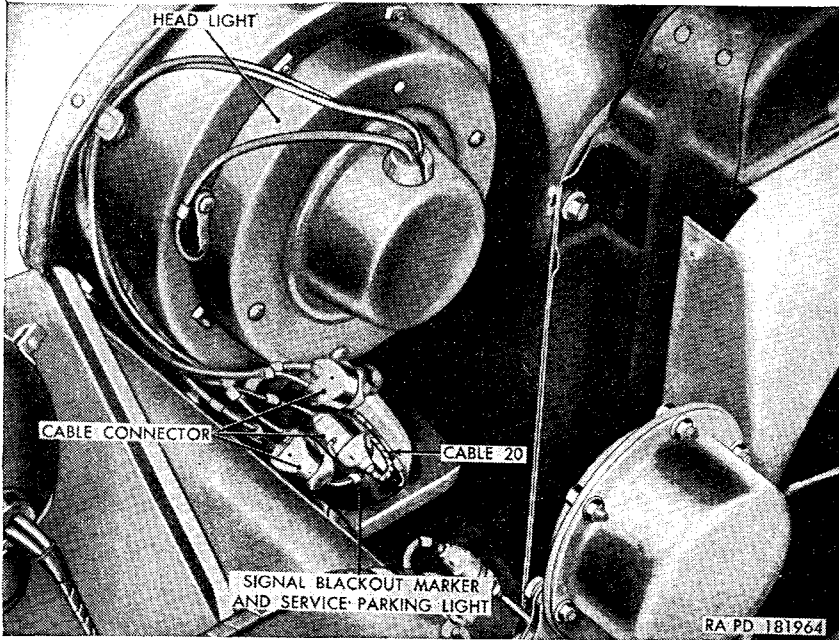

Figure 182. Electrical cables leading to left headlight assembly.
- (1) Raise hood and lock in raised position (par. 255*a*).
- (2) Working on the inside of the left front fender, disconnect the electrical cables (fig. 182) leading to the headlights and the signal blackout marker and service parking light assemblies.
- (5) Working on the inside of the left front fender, connect the electrical cables (fig. 182) leading to the head lights and the signal blackout marker and service parking light assemblies.
- (6) Lower hood and lock in closed position (par. 255*b*).